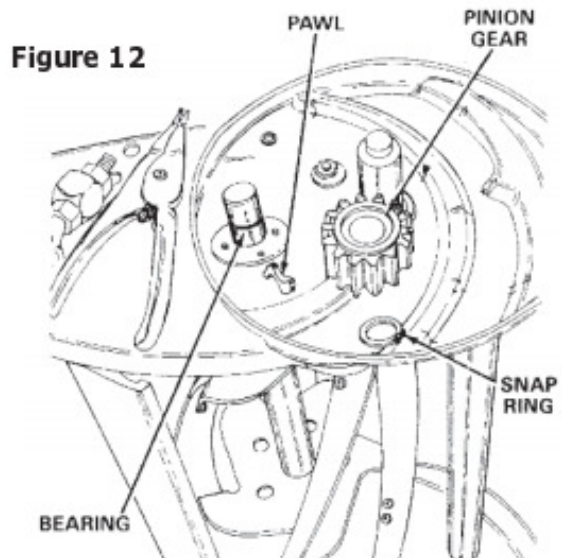

Figure 12
8. Apply light grease to the gear teeth on the inside of the wheel Figure 12.